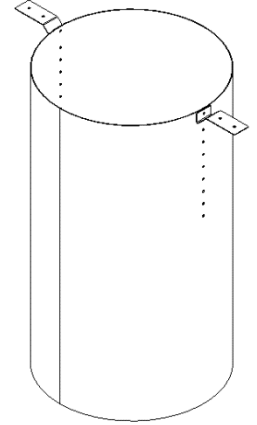

Figure 2-6: SUPREME Roof Rafter Shield
3. Install the SUPREME roof rafter shield in the opening of the roof (Figure 2-6 and Item 4 in Figure 3-6) – adjust the shield so that it is extruding approximately 1" above the roof surface. Ensure to install the appropriate firestop for ceilings and walls.